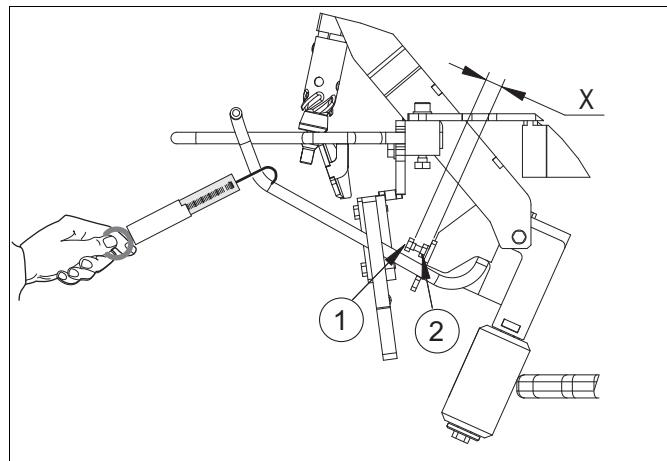

fig. 53 Hip lifters spring tension
3. Also set the spring tension for the other units. See fig. 53 and tab. 15.